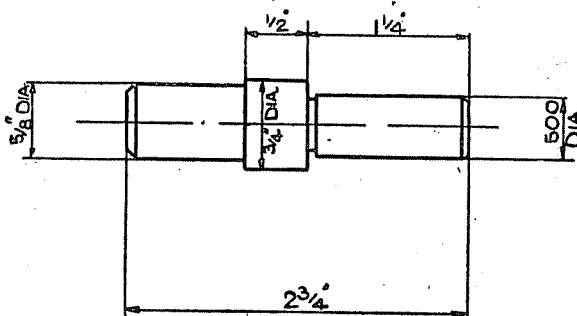

FIG. 15.
- (1) Inspect the pump shaft for wear and check the pulley support bushes. See Paragraph 3 for bushes and shaft sizes as new, also the permissible clearance figures.
- (2) If the bushes are excessively worn, remove and press new bushes in, using tool as shown in Figure 15. By using this tool, a true and free running fit is ensured for the pump shaft.
- (3) Carefully inspect the driving tube slots and corners of the impeller blades for wear.
- (4) Inspect the spring for corrosion, tension and twisting.
- (5) If the ball and roller race require replacing, always ensure that the ball race is pressed in first, followed by the large and small distance pieces and finally the roller race.
- (6) It is advisable that the carbon thrust pad and water pump seal be scrapped and replaced with new ones, as it is difficult to maintain a watertight seal after disturbing.